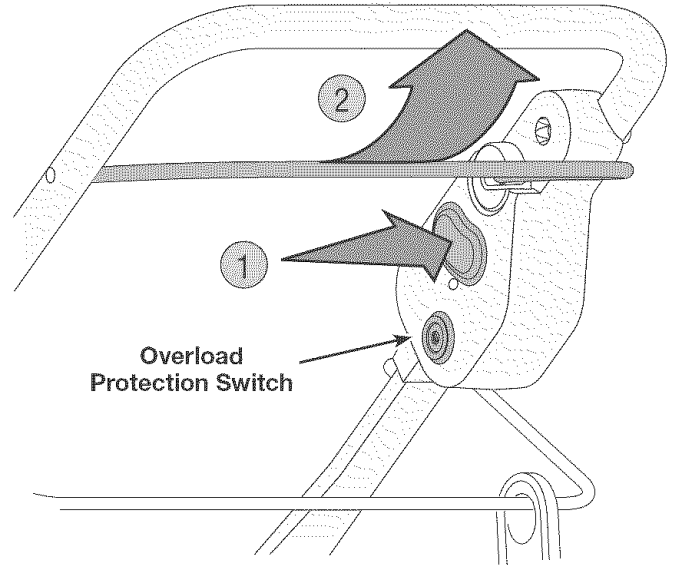

Fig. 6
4. Depress the (red) starter button and hold it in (Fig. 6).
5. While holding the starter button in, pivot the bail upward against the handle (Fig. 6) to start the motor and engage the tines.
2. Press the overload protection switch inward to reset (Fig. 6).